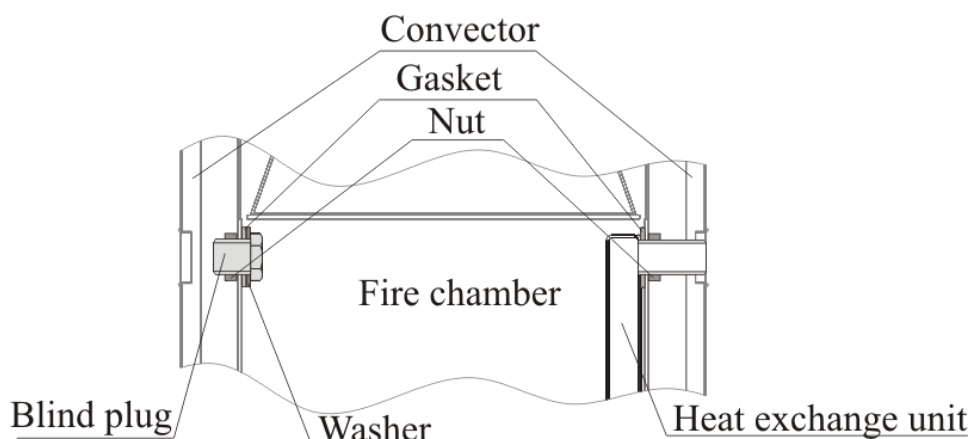

Figure 10. «Angara 2012» sauna stove heat exchange unit and blind plugs disassembling
3. Remove the heat exchange unit (figure 10) by unscrewing 2 nuts and taking it off the holes, the gaskets shall stay on the nipples;